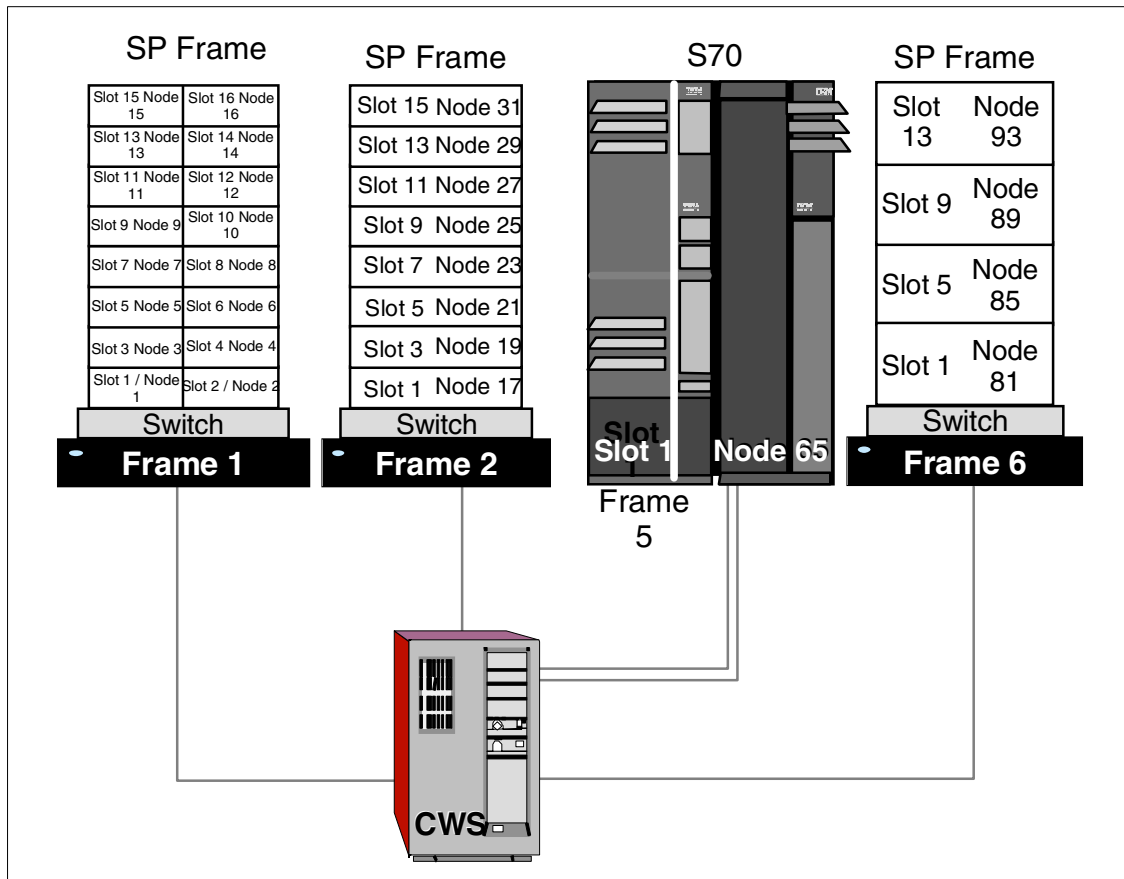

Figure 76. Node numbering
- Each SP-Attached server installed in the SP system subtracts one node from the total node count allowed in the system. However, as the server has frame-like features, it reserves sixteen node numbers that are used in determining the node number of nodes placed after the attached server. The algorithm for calculating the node_number is demonstrated in Figure 76; for further information on the frame numbering issue, refer to Figure 92 on page 177: